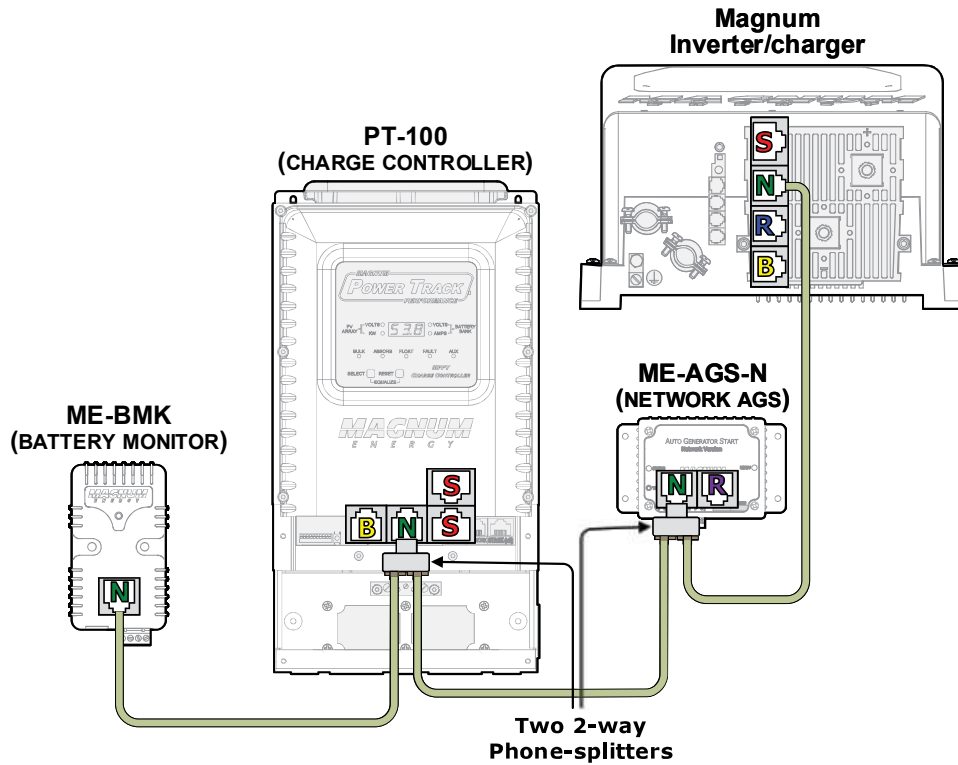

Figure 2-7, Multiple Network Devices with PT-100 – Daisy Chain Configuration
- **Daisy Chain Configuration** – In this arrangement, the network devices are linked in a series (see Figure 2-7). If using this configuration, the first device connected to the inverter's network port* must be the ME-AGS-N, and the ME-BMK must be last.